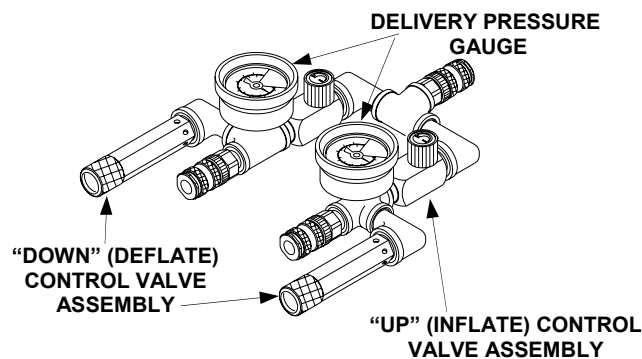

Figure 1-6. Dual Safety Relief and Control Valve
b. The dual safety relief and control valve (figure 1-6) is a single input/dual output controller incorporating quick disconnect hose fittings and dual knob controls to apply and release air pressure to either one or two lift bags. Two gauges are provided to monitor the air pressure applied to either one or two bag(s) and a 118 psi (8.1 Bar) relief valve is incorporated to limit the applied air pressure. Inflation and deflation is accomplished by turning the associated valve knob.